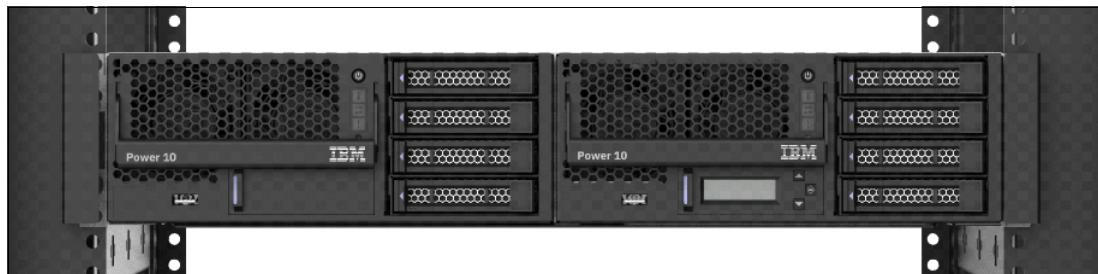

Figure 1-7 Two System S1012 systems rack mounted side-by-side in a single 2u space
1. Two side by side Power S1012 systems in the cage as shown in Figure 1-7 on page 8